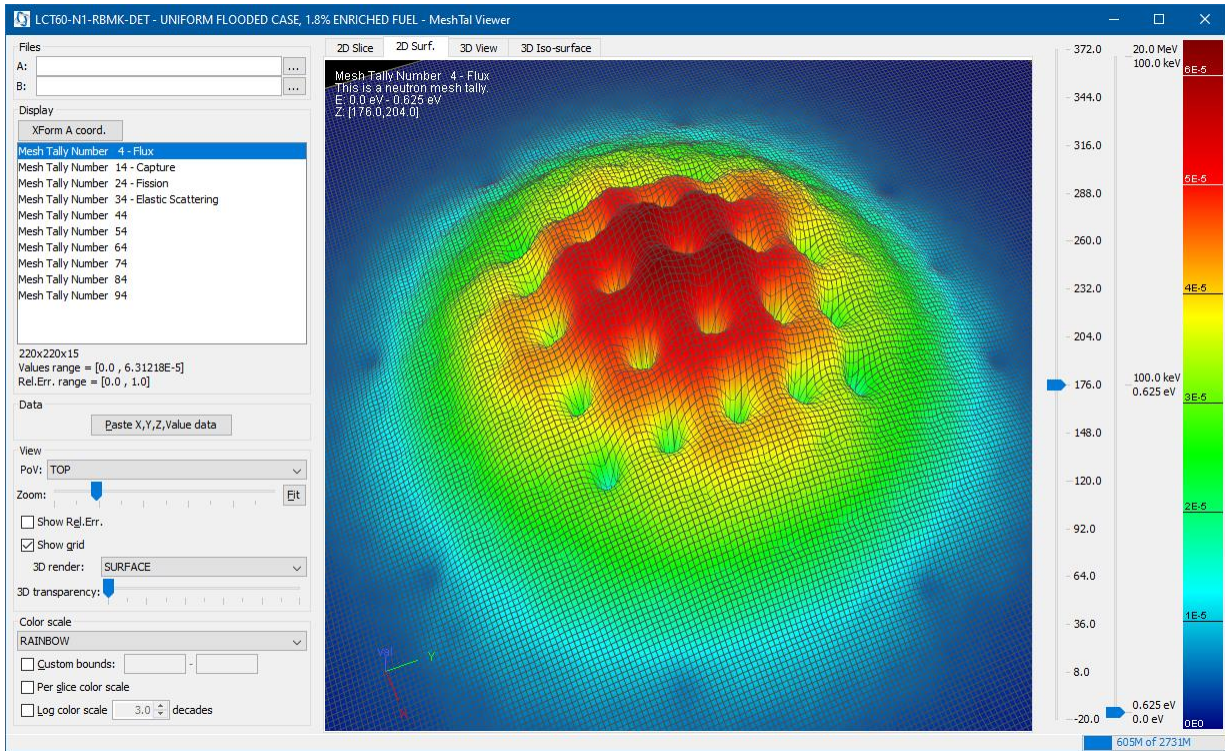

Figure 12: 2D Surface plot, RBMK thermal flux
- 2D Surf, Shown in Figure 12,